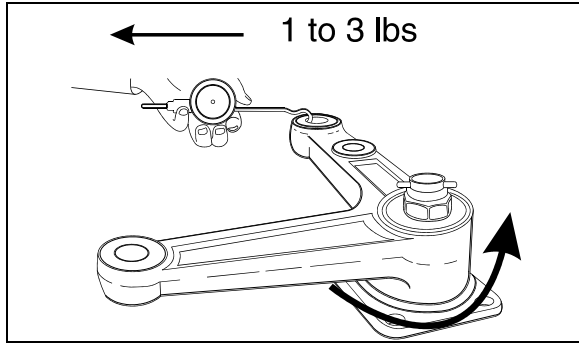

FIGURE 17: BELL CRANK 16045
2. Remove the cap (fig. 17).
3. Remove the cotter pin, nut and thrust washer. Remove bearings, grease retainer, backup ring and the bell crank or idler arm from its mounting spindle (fig. 17).
Install grease retainer according to figure 17. Grease must be able to exit the bell crank or idler arm mechanism. For grease retainer installation use tool Prevost # 110683.